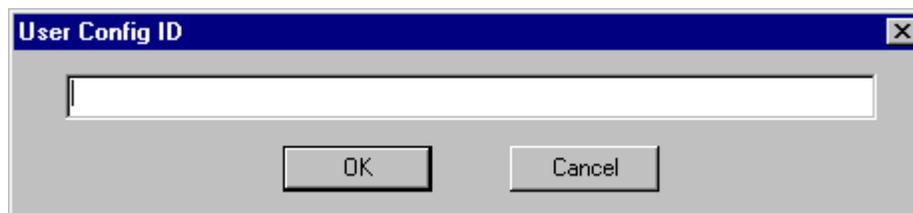

Figure 4.6 – User Configuration Name Dialog Box
-  Click on this save button and type in the desired view configuration dialog box shown in the Figure 4.6. Click "OK" to save the configuration.